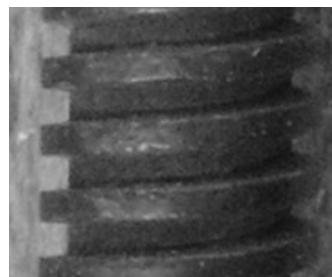

Fig. 4
- (a) Fig. 4 shows the coarse pitch thread used in the G cramp.
Name the thread form shown in Fig. 4.